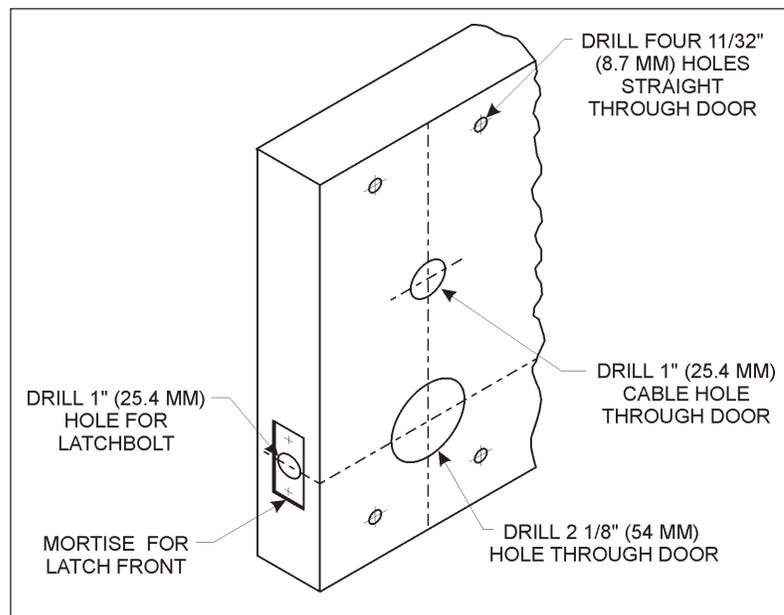
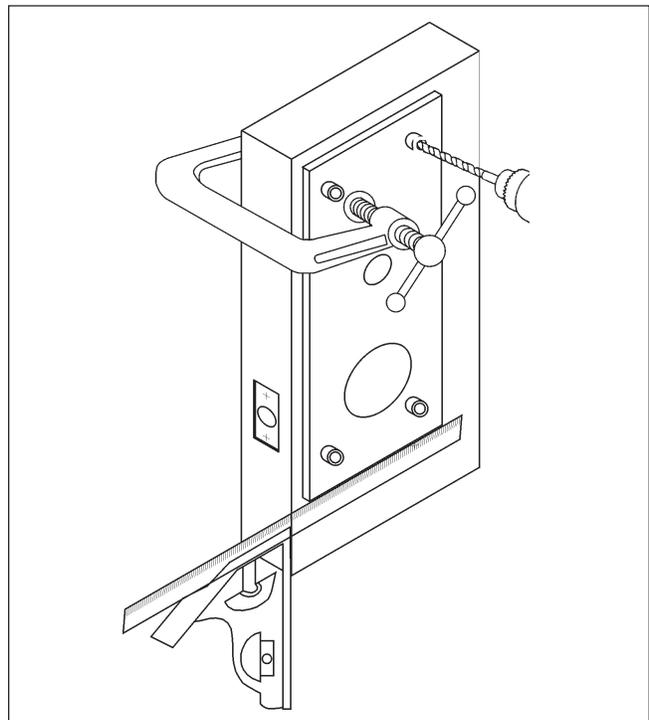

Figure 5
Figure 6
Refer to Figure 5 for summary drilling dimensions. An optional Drill Jig is available. Refer to Figure 6 on the following page.
1. For the best results, align the jig to the door with a combination square and clamp to the door before drilling. Refer to Figure 6.